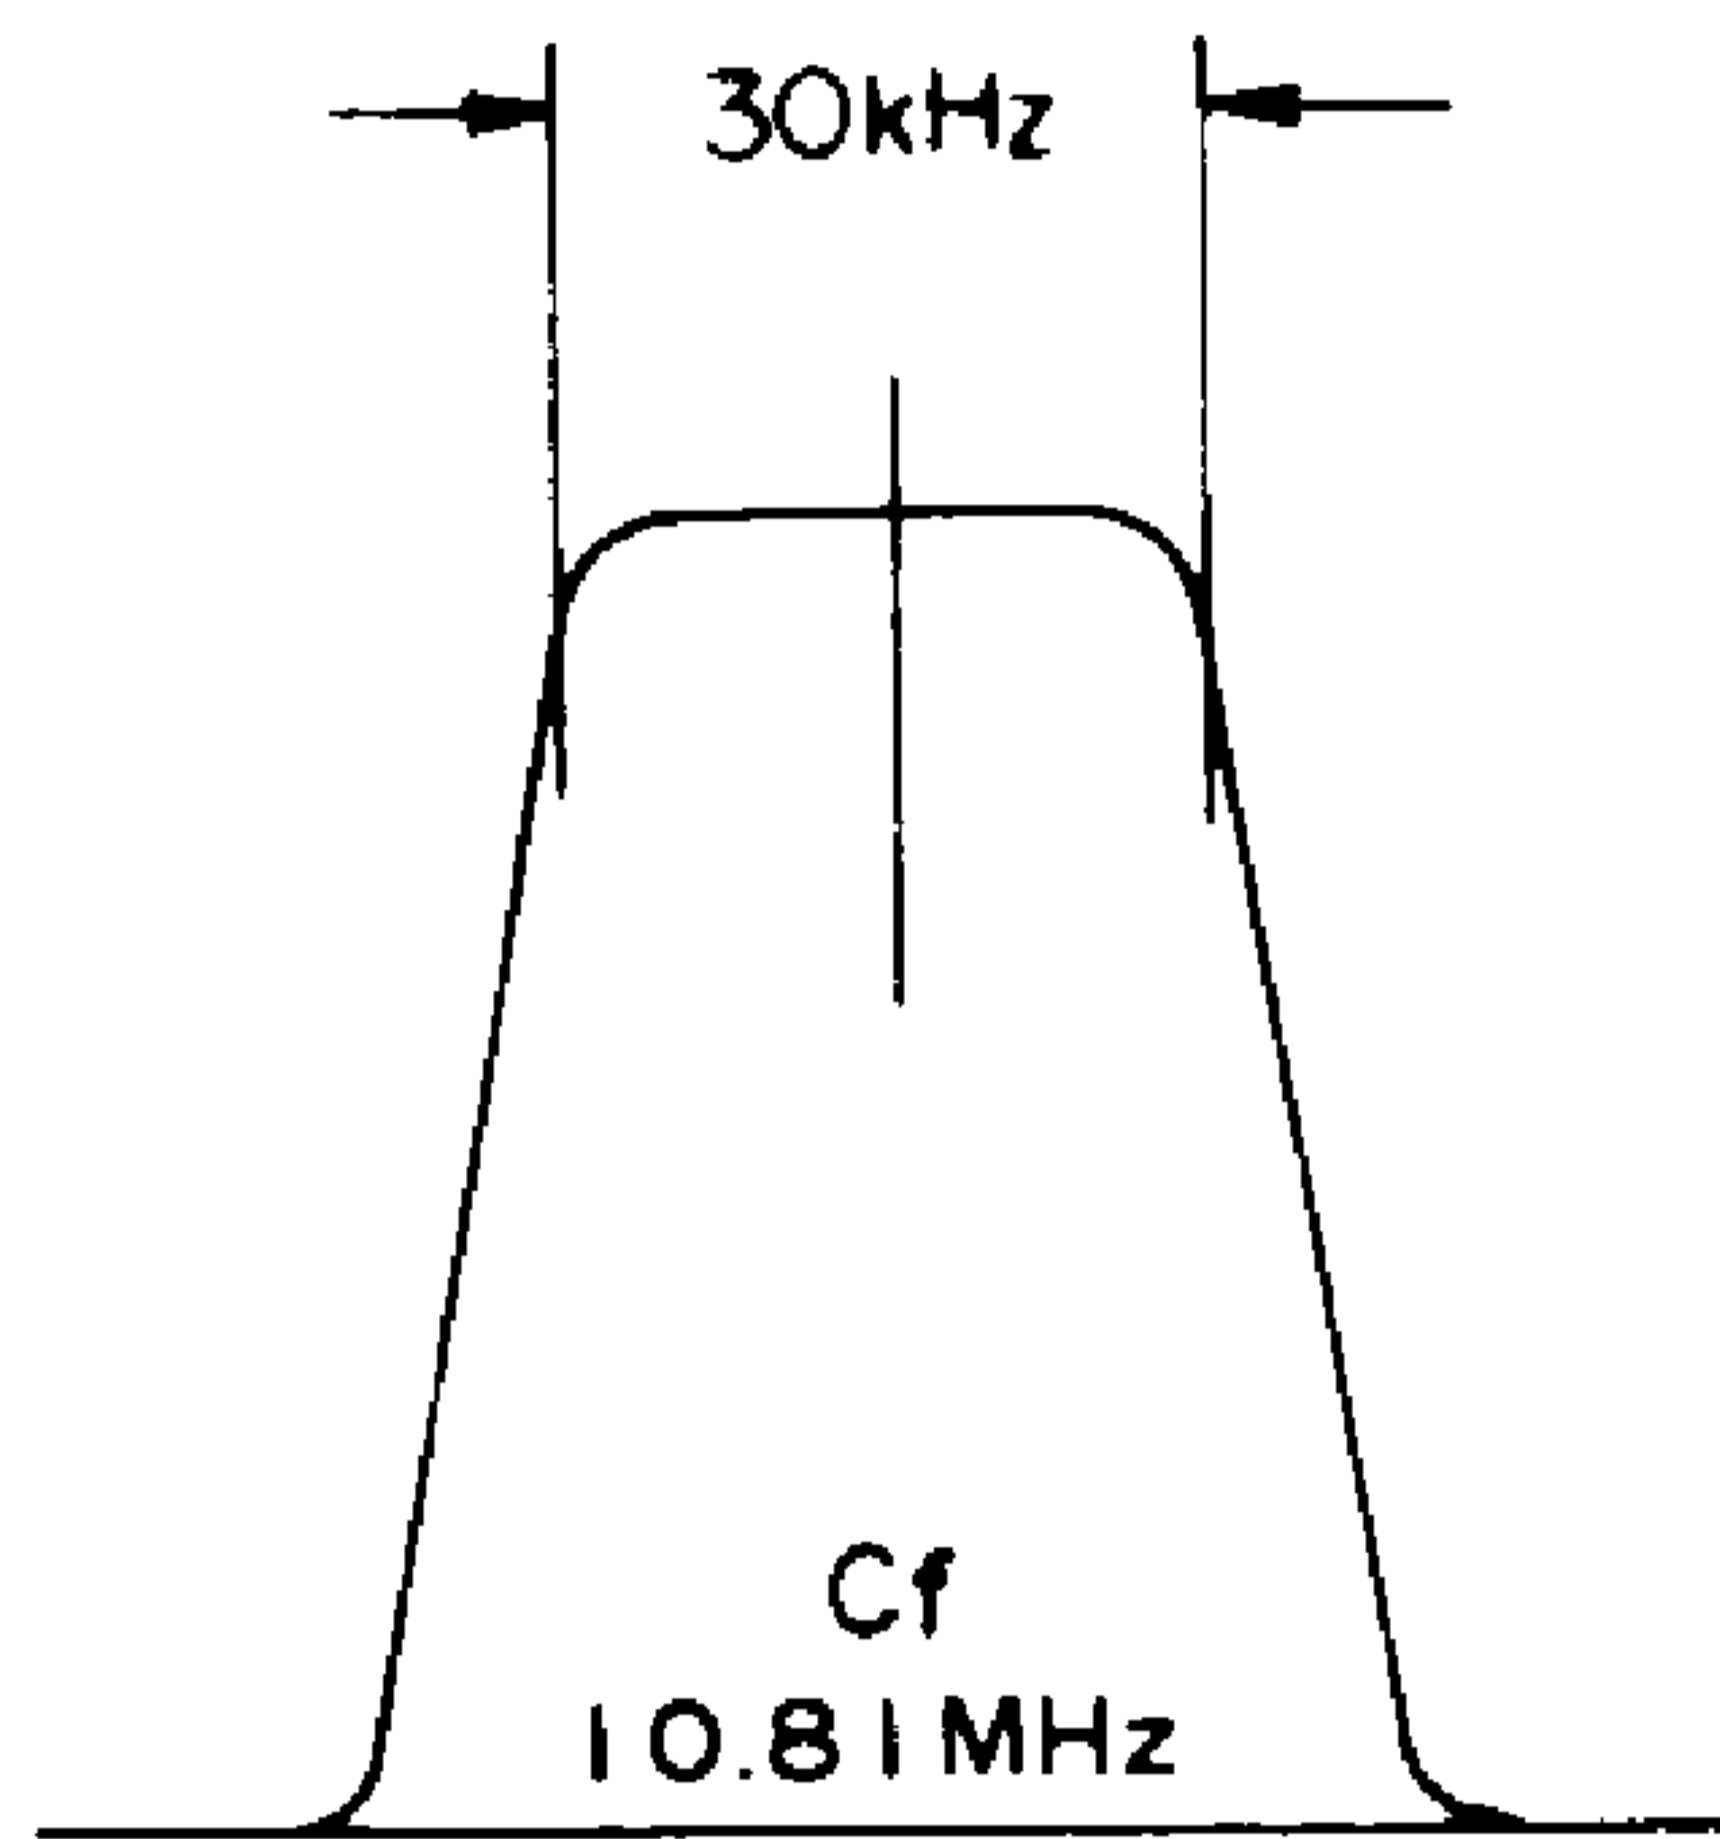

Figure 2
- d) Adjust T_{1003} and T_{1004} until the scope pattern illustrated in Fig. 2 is obtained.